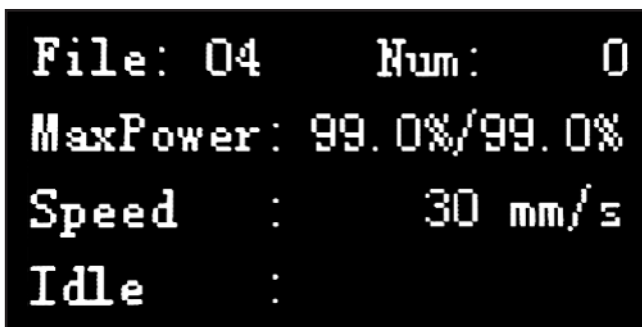

Figure 48. Example of displayed status screen.
13. Press Esc four times to return to status screen (see **Figure 48**).